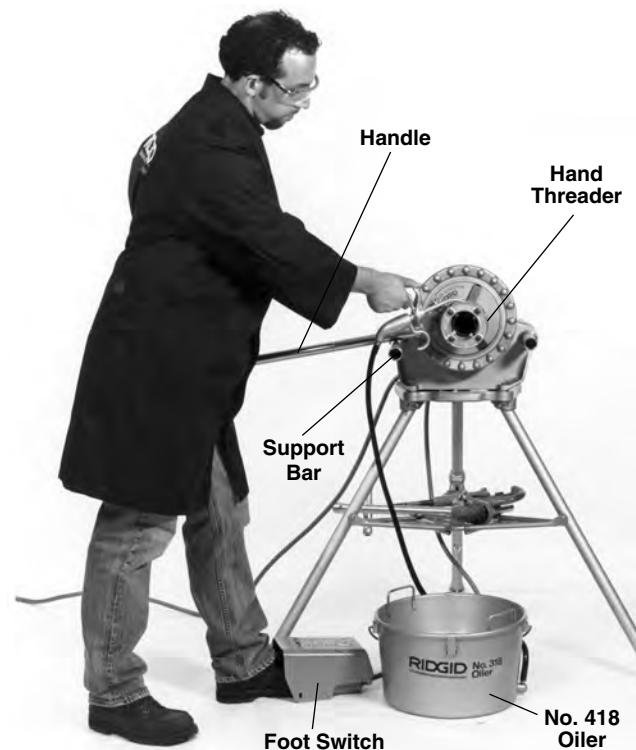

Figure 8 – Threading with Hand Threader
8. Position the foot switch so that the operator can safely control the machine, tools and workpiece. As shown in *Figure 8*, it should allow the operator to do the following:
3. Assume the correct operating posture (*Figure 8*). This will allow you to maintain proper balance and to safely keep control of the machine and tools.
9. Remove the right hand from the area of the die head and liberally oil the dies while the pipe is threaded (Figure 8).